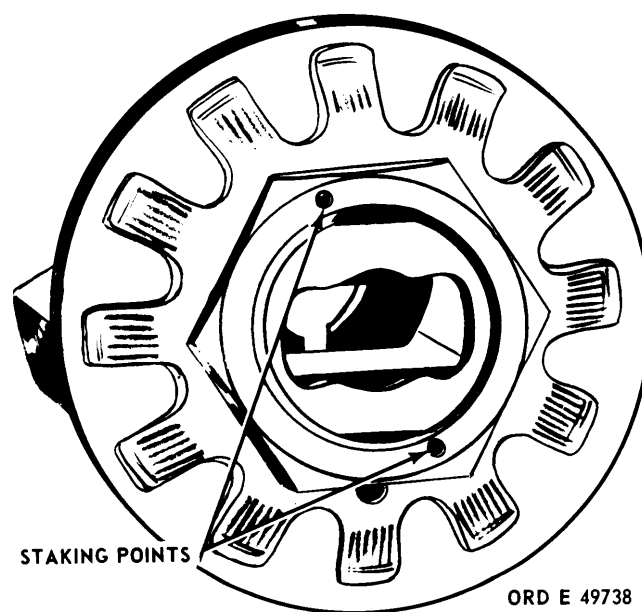

Figure 3-94. Staking spring disk adjusting nut.
(4) Refer to figure 3-94. Using a center punch, stake spring disk adjusting nut at two points indicated to prevent nut from loosening.
(5) Remove friction drive spider and governor assembly from vise.